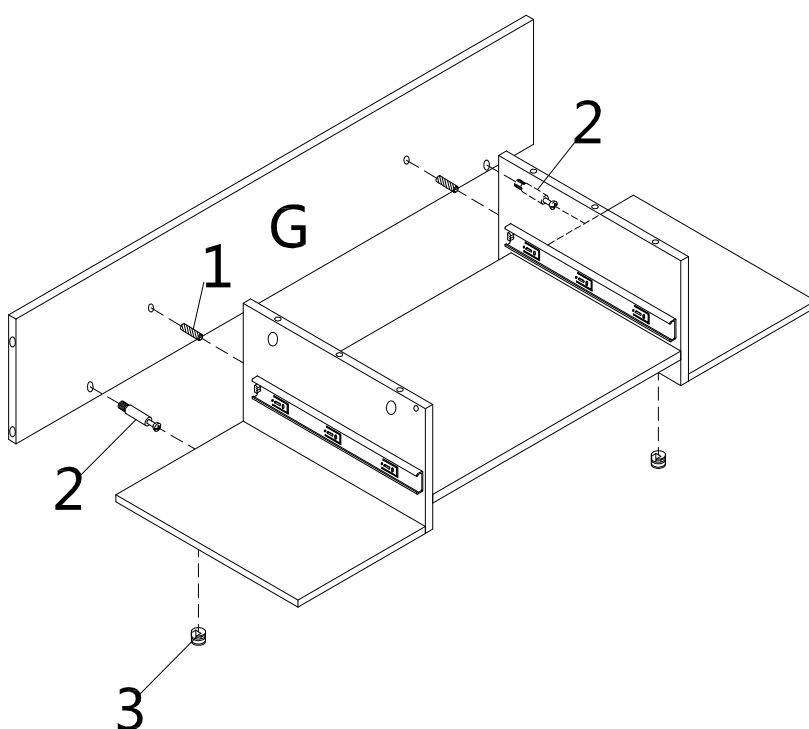

Figure 7
Attach Rail(I) to pre-assembled unit from figure 7 with Wood Dowel(1).